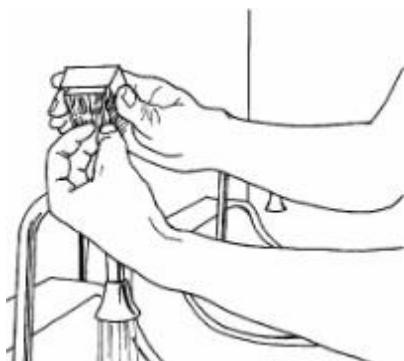

Figure 1-8
(6) Lather fingertips with sponge-side of brush; then, using bristle side of brush, scrub the spaces under the fingernails of the right or left hand 30 circular strokes (see Figure 1-8). When scrubbing, slightly bend forward, hold hands and arms above the elbow, and keep arms away from the body.